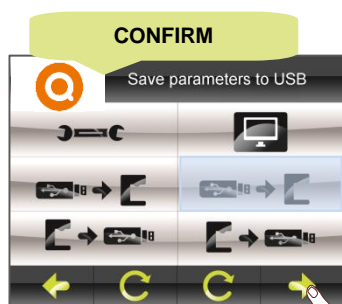

Figure 2.
2. Press the advance button to confirm the operation (Fig. 2).